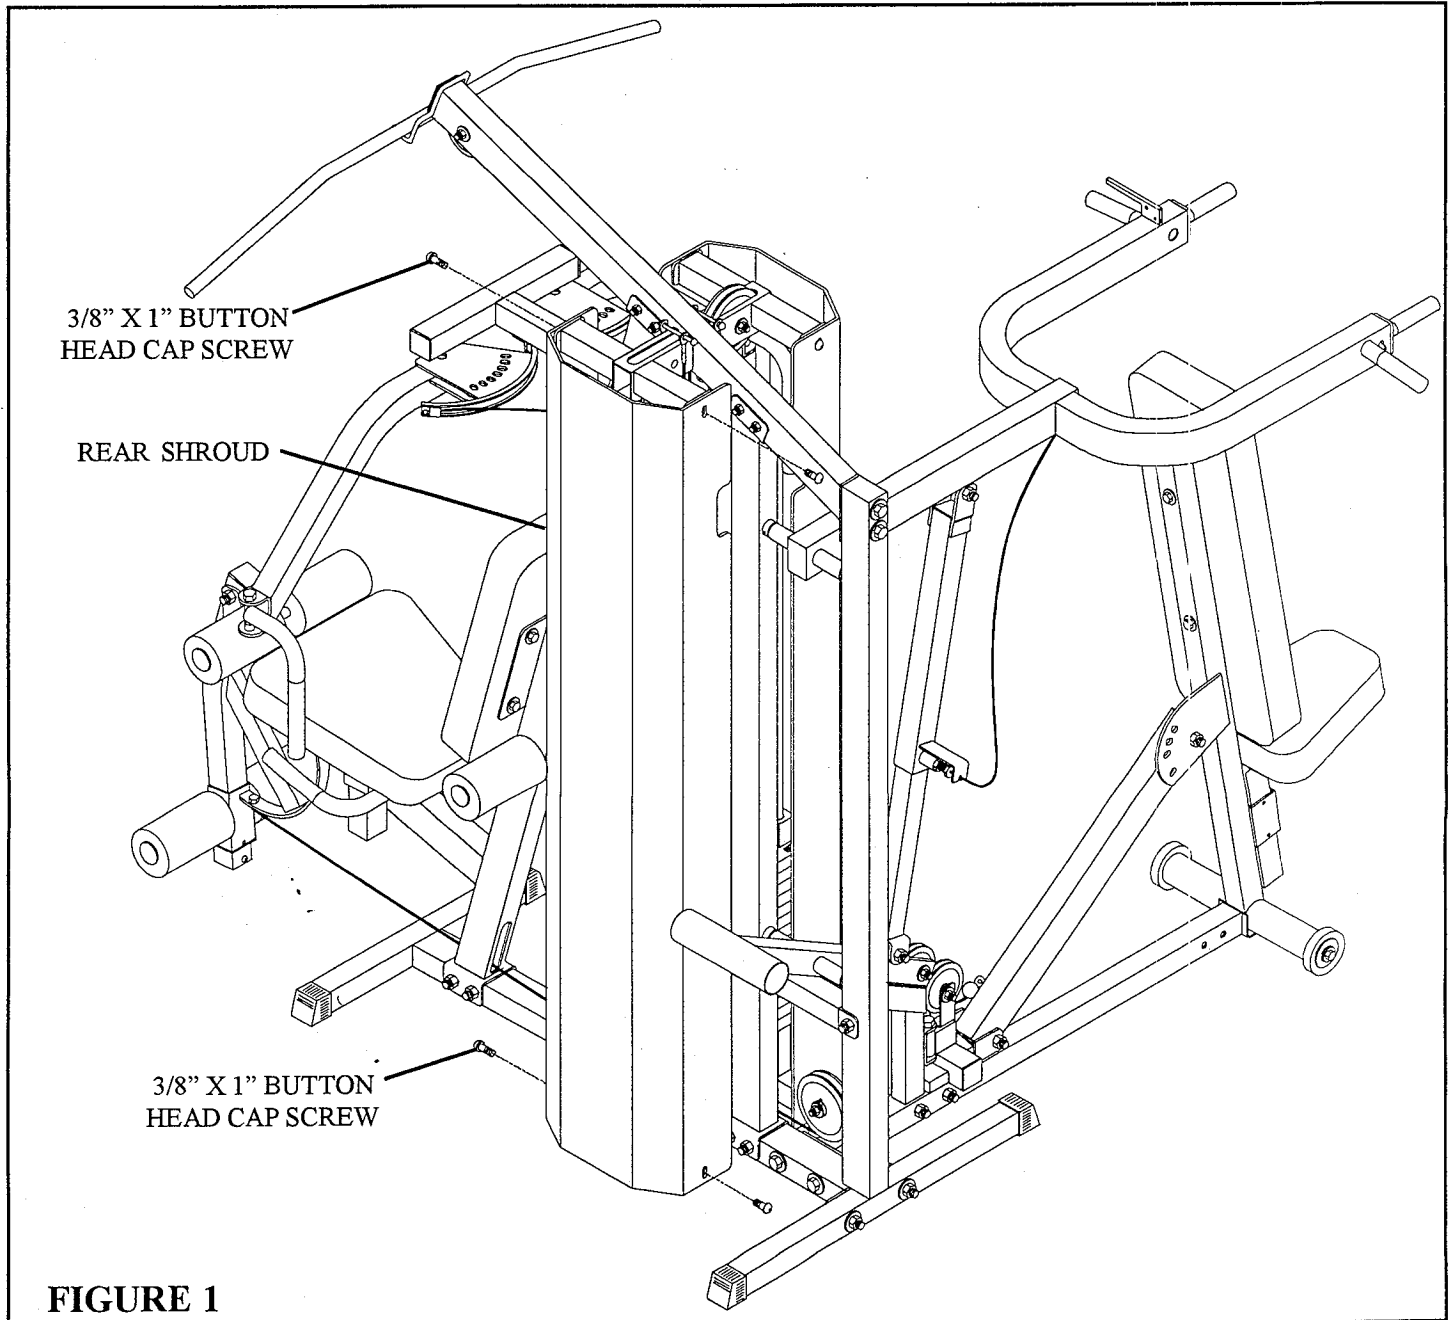

FIGURE 1
- **REMOVE** the four 3/8" X 1" BUTTON HEAD CAP SCREWS from the rear SHROUD. Remove the SHROUD from the 425103 HOME GYM. See FIGURE 1.